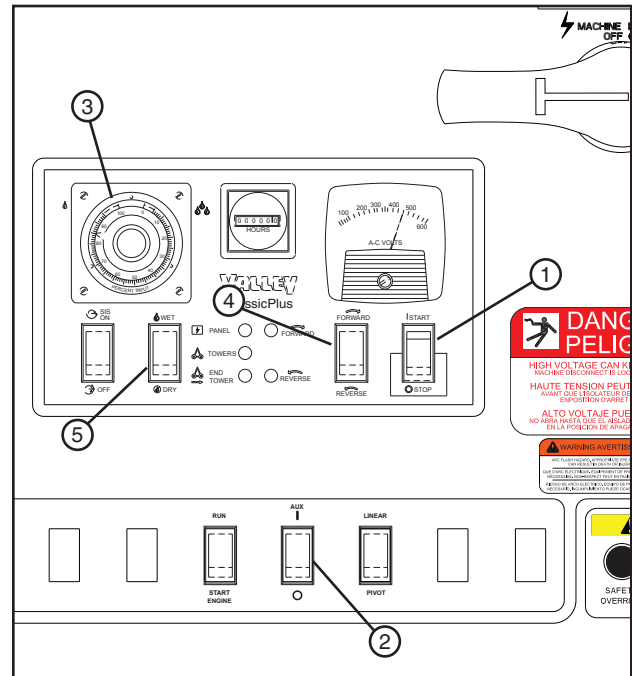

Figure 79-1 1. Start/Stop Switch 4. Forward/Reverse Switch
1. At the control panel, switch the START/STOP rocker switch to the STOP position. See figure 79-1.
2. Switch the WATER ON/OFF rocker switch to the OFF position. See figure 79-1.
3. Switch the PIVOT/LINEAR rocker switch to the pivot mode. See figure 79-1.
4. Set the FORWARD/REVERSE switch for the desired direction of travel that the machine will move in when started. See figure 79-1.
5. Set the percent timer to the desired percentage. See figure 79-1.
6. Switch the START/STOP rocker switch to the START position, to start the machine in the pivot mode. See figure 79-1.
7. When the machine reaches the end of pivot zone, switch the START/STOP rocker switch to the STOP position. See figure 79-1.
8. Switch the PIVOT/LINEAR rocker switch to the linear mode. See figure 79-1.